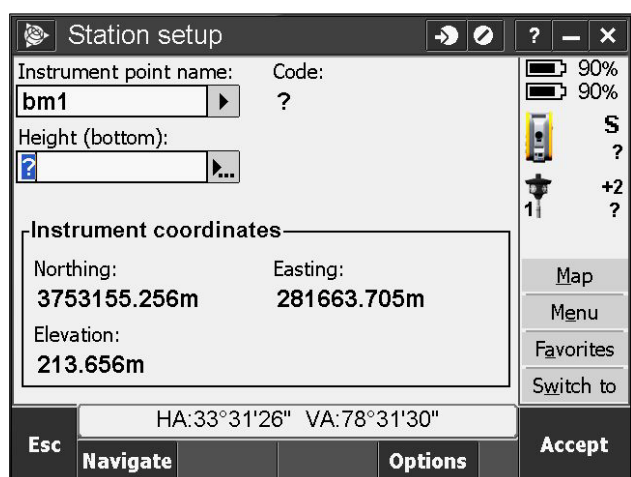

Figure 12. Station setup screen after instrument location identified.
- f. Key in the BM (benchmark) as the code and measure up from the benchmark (or ground level) to the yellow notch in the side of the total station and input the instrument height (Same value as in Step 2a above; Figure 12) => Enter => Accept.